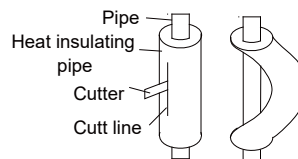

Fig.11
- (2). Do not bend the pipes in an angle more than 90°.
- (4). When bending the pipe, do not bend it as is. The pipe will be collapsed. In this case, cut the heat insulating pipe with a sharp cutter as shown in Fig.11, and bend it after exposing the pipe. After bending the pipe as you want, be sure to put the heat insulating pipe back on the pipe, and secure it with tape.